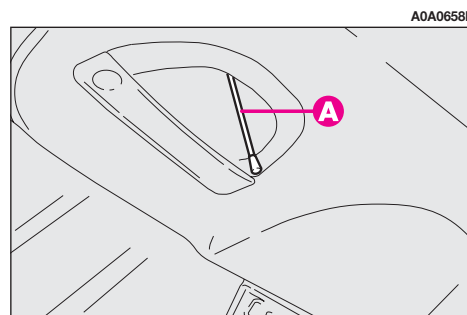

fig. 144
- unlock the lock by pulling the string (A-fig. 144) (the string is located inside the right recess in the tailgate).